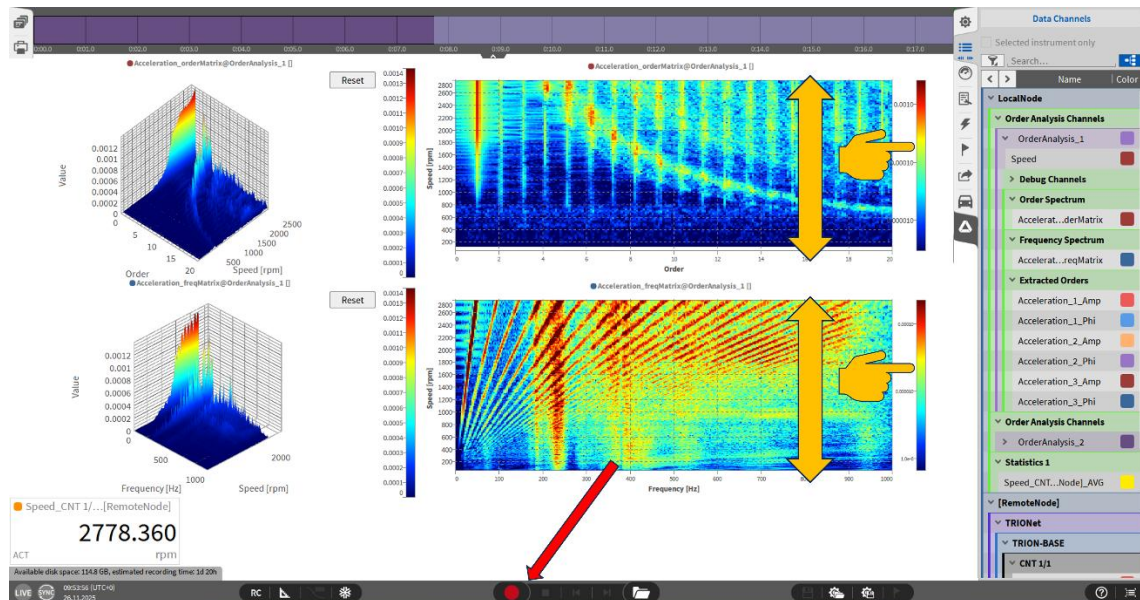

Figure 3-1: Changing the contrast of the intensity charts
- Push Record Button (see red arrow in Figure 3-1:)
If needed, adjust the "Contrast" with the color control, adjust the range with CTRL + mouse wheel on the color bar (see Figure 3-1:)